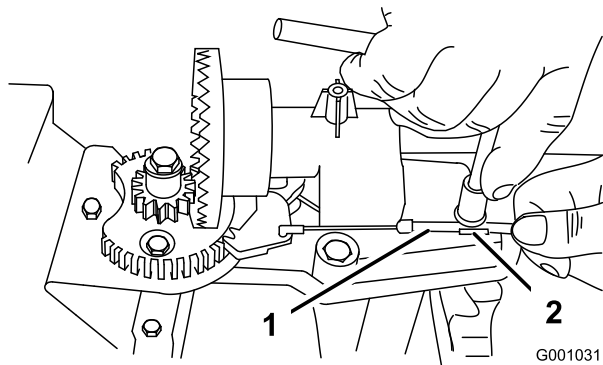
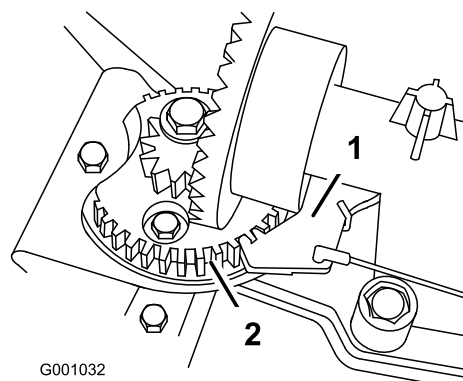

Figure 48
Figure 49
2. Loosen the bolt on the cable clamp (Figure 48).
3. Grasp the cable conduit and move it toward the front of the machine until the discharge chute latch fully engages the gear teeth (Figure 48 and Figure 49).
**Note:** The latch is spring loaded and will naturally move into the teeth of the gear (Figure 49).